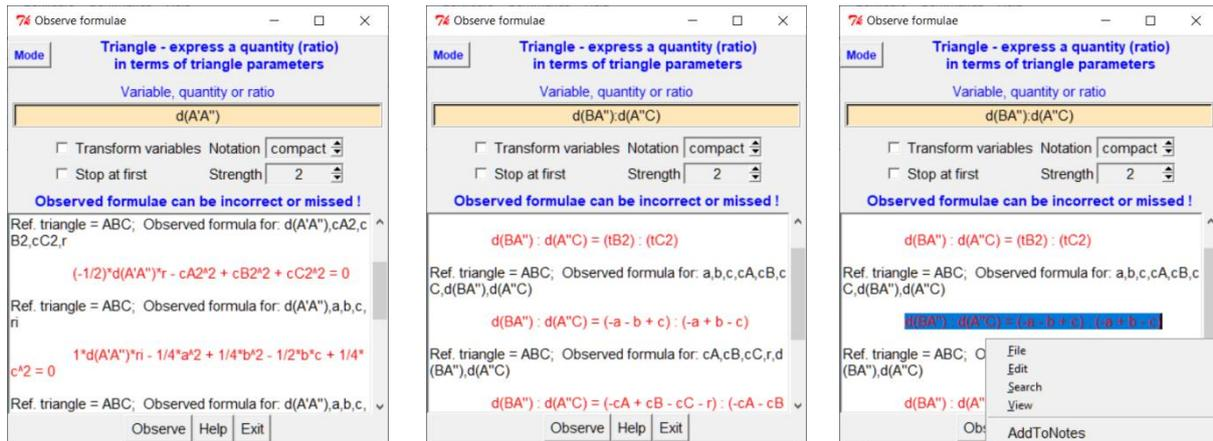

Figure 40
2. Activate the command *Command/Observe formulae/Triangle*. A form will appear. In the first entry write the considered (Figure 40, left) quantity or the ratio of two quantities (Figure 40, centre): in our case, $d(A'A'')$ for the first observation, and $d(BA''):d(A''C)$ for the second observation. Then click on the **Observe** button.
3. OK Geometry looks for various ways of expressing the considered quantity or ratio in terms common triangle elements. Some of the suggestions require an interpretation as explained in Section 4.3.2. The highlighted part of the results in Figure 40 (left) and Figure 40 (right), for example, can be rewritten as